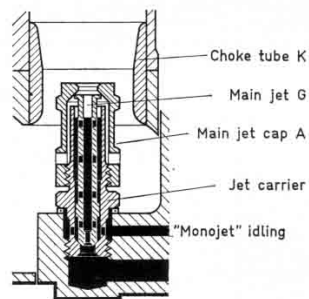

Fig. 23 Assembly No. 12
In the majority of carburetor types, fuel for idling is taken after passing through the main jet and, so to speak, controlled by the main jet (see fig. 23).
a) Jet Assembly No. 12 (fig. 23)